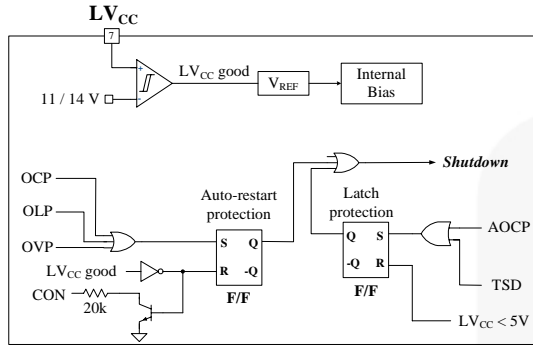

Figure 27. Protection Blocks
5. Protection Circuits: The FSFR-series has several self-protective functions, such as Overload Protection (OLP), Over-Current Protection (OCP), Abnormal Over-Current Protection (AOCP), Over-Voltage Protection (OVP), and Thermal Shutdown (TSD). OLP, OCP, and OVP are auto-restart mode protections; while AOCP and TSD are latch-mode protections, as shown in Figure 27.